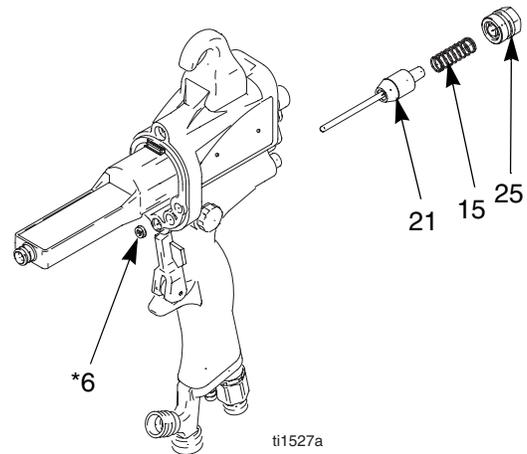

Fig. 20. Air Valve
3. Remove the air valve cap (25) from the handle (17). Remove the spring (15). See FIG. 20.